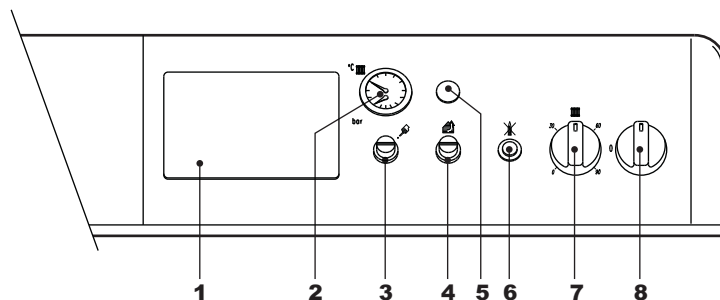

fig. 1 - Control panel
- Turn the boiler switch "8" to 1 (fig. 1).
- If the boiler is equipped with an electronic thermostatic controller fitted in position 1fig. 1 of , the user must also take into account the manufacturer's instructions.
Turn the knob 7 of fig. 1 clockwise to increase the heating water temperature, or anti-clockwise to decrease it. The temperature can be varied from a minimum of 30°C to a maximum of 90°C. However, it is advisable not to operate the boiler below 45°C.
Using the room thermostat, set the required temperature in the rooms. By command of the room thermostat, the boiler lights and brings the system water to the temperature set by boiler adjustment thermostat 7 of fig. 1. The generator turns off when the required temperature in the rooms is reached.
The filling pressure with system cold, read on the boiler water gauge detail 2 of fig. 1, must be approx. 1.0 bar. If, during operation, the system pressure falls (due to the evaporation of gases dissolved in the water) to values below the minimum described above, the user must bring it to the initial value by operating the filling cock. At the end of the operation always close the filling cock.